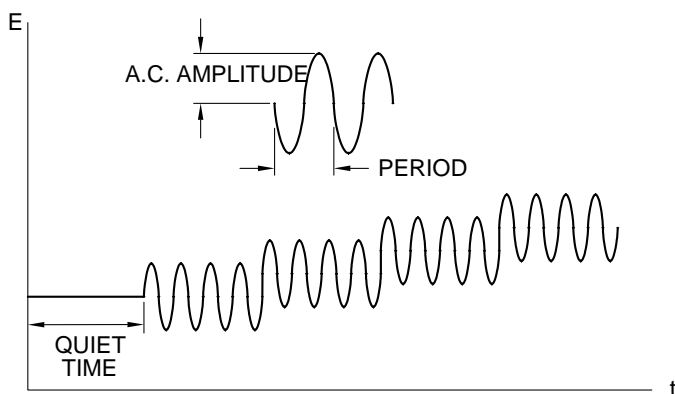
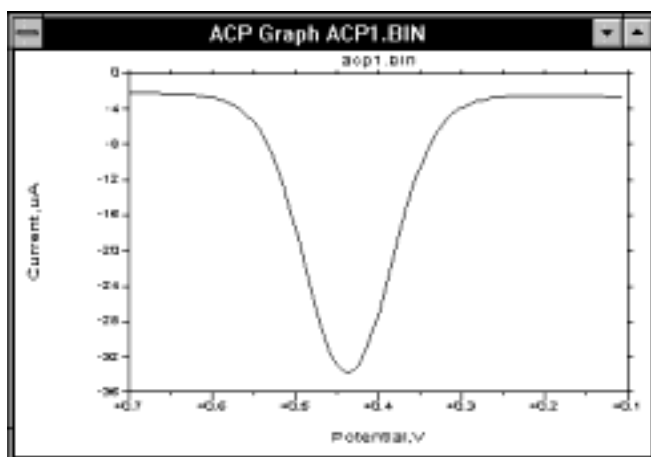

Figure 10-20. Potential wave form for **ACV/P**, **PSACV/P** and **SHACV/P**.
Figure 10-21. A.C. current response for ACV/P.
A.C. Voltammetric methods are a variation on A.C. Impedance. The frequency is constant, and the D.C. potential is varied slowly (Figure 10-20). The D.C. potential is used to alter the concentrations of the oxidized and reduced species at the surface of the working electrode, and the A.C. potential is used to perturb these concentrations. The A.C. potential will have the greatest effect at the redox potential, so the A.C. current response for **ACV/P** is a peak-shaped curve (Figure 10-21).